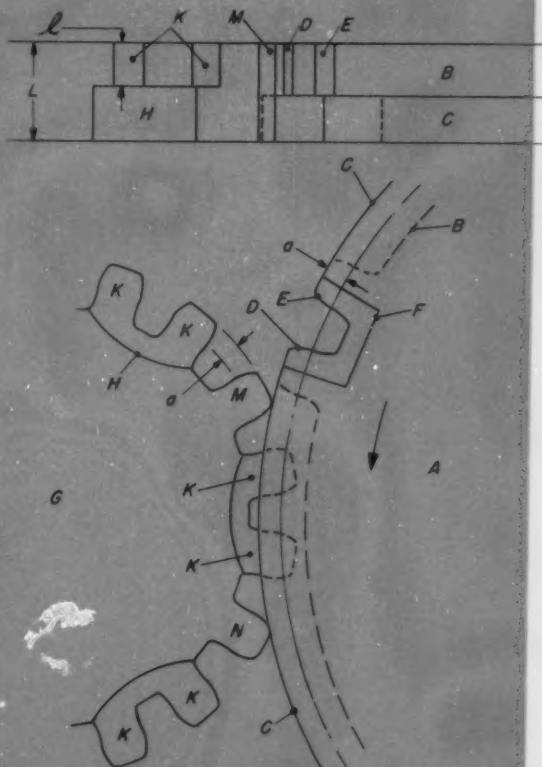

Fig. 1 — Mutilated-tooth indexing drive of a type used in instrumentation.
2. Reduce the variables to linear form. Where the variables are already linear (as in Figs. 1 to 3) no modification is necessary. Take square root of an area variable; the cube root of a volume variable; and the fourth root of a time variable.
3. Plot the two variables either direct or reciprocally as may be necessary to have each coordinate of the plot increase as the other increases. For example Figs. 1, 2 and 3 employ a straight plot of x and y ; but in stress-strain, the reciprocal plot, Figs. 4 to 10, finds the simple relation more easily even though the straight plot does meet this condition.
The mutilated-tooth drive is depicted schematically in Fig. 1. The driving member, or input A, consists of two concentric disks, B and C. The disk B is essentially a spur gear, from which all teeth except one (or more) have been removed. (In Fig. 1 two teeth have been left intact, D and E.) The diameter of the disk C (or locking disk) is the same as the outside diameter of the virtual spur gear B, or slightly larger. There is a clearance slot F in the locking disk, whose purpose will be shown presently.
In the position shown in Fig. 1, the pinion *G* remains motionless even though *A* turns. Gear *G* is positively locked because the contact of teeth *M* and *N* with disk *C* prevents it from turning. Finally the leading edge of tooth *D* makes contact with the mutilated tooth *K*, and *G* starts turning, causing *M* to engage the tooth space between *D* and *E*. The clearance slot *F* makes this possible without interference with disk *C*. The motion of *G* is continued until *M* arrives in the position initially occupied by *N*. Then *G* stops again, is locked in position, and the sequence of events is repeated after one full revolution of the driver *A*.
are defined in Fig. 1 and Nomenclature. A fixed-fixed nonuniform beam with concentrated load, or loads, F is assumed.
Fig. 1—Sign convention and basic nomenclature for analysis of external and internal load relationships of beam with fixed ends. Arrows indicate positive direction.
BASIC RELATIONSHIPS: For a typical beam section, Fig. 1, the relationship between deflection and slope at station $n+1$ in terms of these quantities at station n may be readily obtained. The deflection at station $n+1$ is the superposition of (1) the deflection at station n , (2) the change in de-